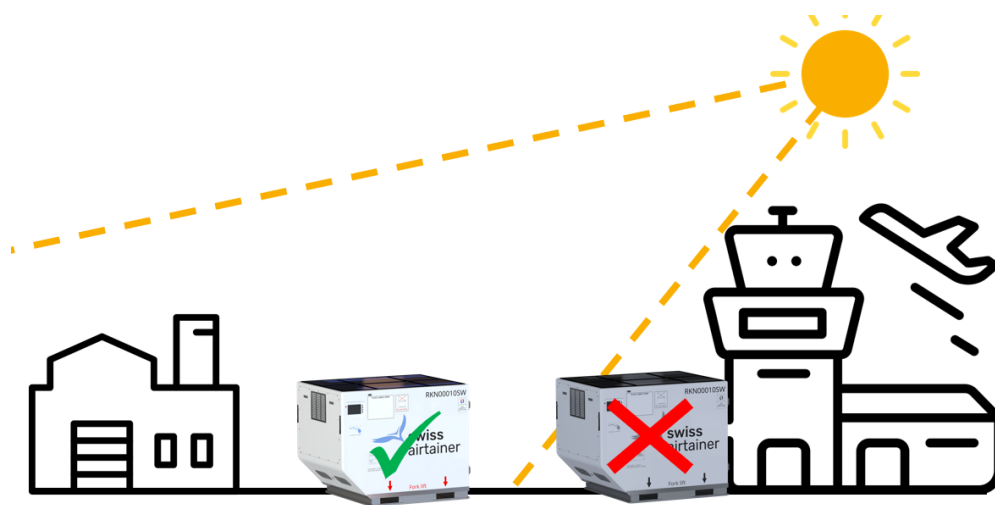

Figure 4 – Positioning of RKN for proper sunlight illumination
1. Place the container outside (§4.3.1) during the day and ensure direct illumination from sun as much as possible (Figure 4);